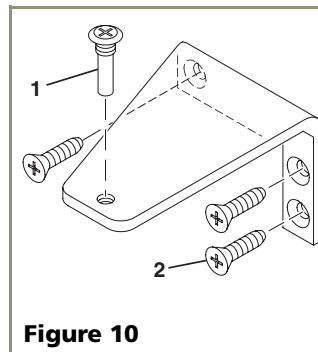

Figure 10
3. Remove top hinge (3 screws), reinstall hinge screw pin, and remount on opposite side **BOTTOM** (see **Figure 10**).